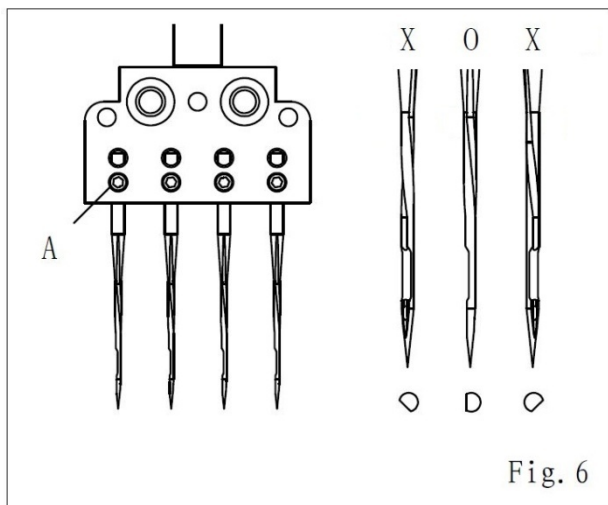

Fig. 6
2. 旋开锁针螺丝 (A), 并取下旧针, 将新针插至针座之最顶端, 且将凹面部分向左。(图 6)
3. 重新将锁针螺丝锁紧 (A)。
- b. Loosen screw (A), then, pull out the used needles. Insert the new needles into the holder holes as far as they can go, and let the concave face is divided to the left. (Fig. 6)
- c. Fasten screw (A).